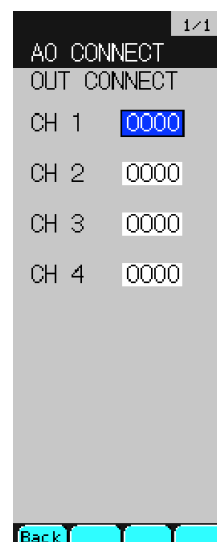

Fig. 4-13
- ③ Press "▼" repeatedly until the cursor is aligned with "AO CONNECT" and press the "Sel" key to display the "AO CONNECT" screen (Fig. 4-13).
- ④ The cursor is positioned at "CH1". Press the "Ent" key to turn the cursor yellow. Operate ">", "▼" and "▲" so that "0a34" will be selected and press the "Ent" to enter the setting.